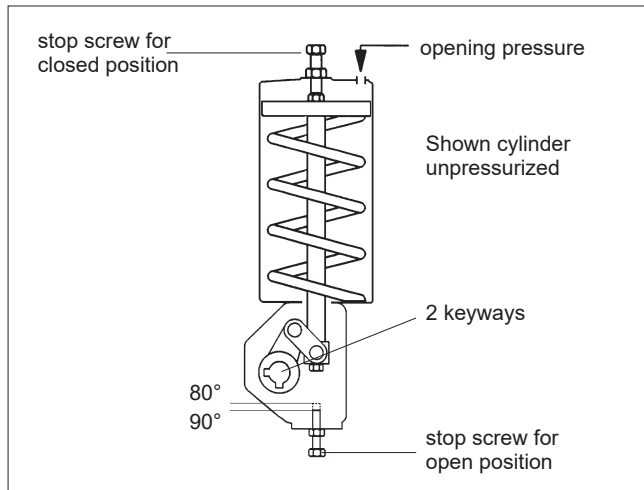

Fig. 6 B1J actuator
Install the actuator on the valve with the piston in the upper end of the cylinder and the valve in the closed position, see Fig. 6. The cylinder must be depressurized and the air ports open. Adjust the closed-position setting using the stop screw (26) at the end of the cylinder. Seal the screw thread with a non-hardening sealant, such as Loctite 225 or equal liquid glue. The open-position setting is adjusted with the stop screw (27) at the bottom of the housing while the actuator is pressurized and the piston is in the lower position.